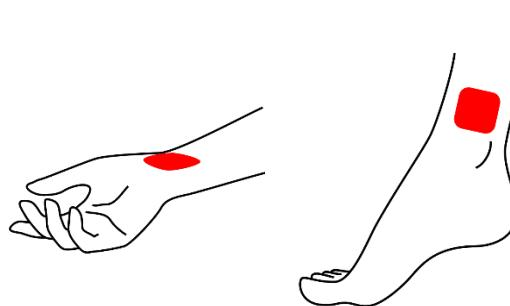
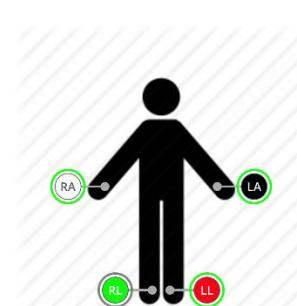

Figure 27: Connect the ECG Electrode to the inside of the patient's wrists and ankles
Figure 28: The Connect Cables screen displays a diagram illustrating where to connect each Patient Lead Wire and the status of each connection
1. Place one ECG Electrode on the patient at each of the following 4 locations (Figure 27, Figure 28):